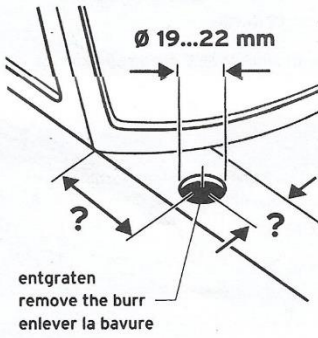

Fig.1
- Disconnect battery minus for security, according to the instructions of the manufacturer of the cars (fig. 1).